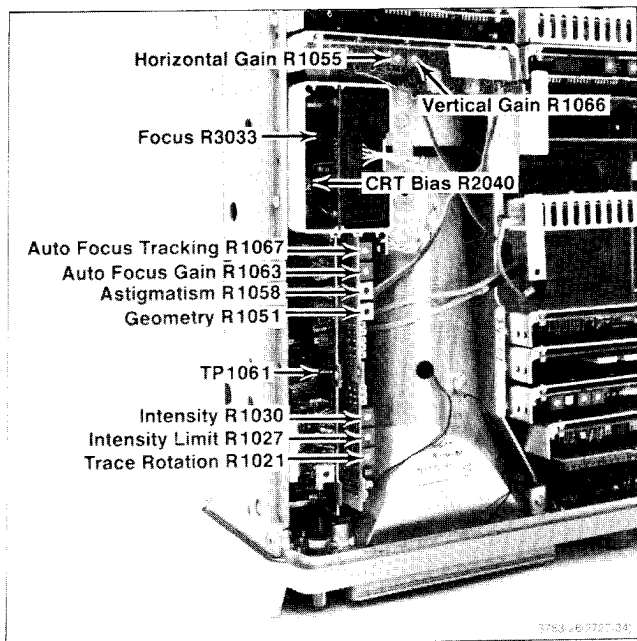

Fig. 3-23. Adjustments and test points on the deflection amplifier, High Voltage module, and Z Axis/RF Interface board.
a. Switch POWER off and preset the INTENSITY control fully counterclockwise, MANUAL SCAN to midrange, and TIME/DIV to MNL. Set the Intensity Limit R1027 on the Z-Axis board (Fig. 3-23) fully counterclockwise and Crt Bias R2040 on the High Voltage board (Fig. 3-24) fully clockwise.
3) Focus the dot by adjusting R3033 on the High Voltage board (Fig. 3-23).
6) Turn the INTENSITY control clockwise until a dot is visible. Defocus the dot with the focus adjustment, then adjust Astigmatism R1058 (Fig. 3-23) for a round dot. Re-focus the crt beam dot.
1) Switch POWER off then remove P4036 (Fig. 3-24) on the High Voltage board. Turn the INTENSITY control fully clockwise, the MANUAL SCAN fully counterclockwise and ensure that the TIME/DIV is in MNL position. Set the Intensity Limit R1027 on the Z-Axis board (Fig. 3-23) fully clockwise.
4) Adjust Intensity Limit R1027 (Fig. 3-23) for a voltage reading of 0.9 volt at TP4028.
f. Reduce the FREQ SPAN/DIV toward 0 Hz while keeping the calibrator signal centered on screen with the FREQUENCY control. Adjust the REF LEVEL so the trace is approximately mid-screen; then adjust the Trace Rotation R1021 (Fig. 3-23) so the trace is aligned with the graticule lines.
g. Change the REF LEVEL so the trace is approximately 15 to 20 dB below the top of the screen. Now, while alternately switching between 2 dB/DIV and 10 dB/DIV, adjust Geometry R1051 (Fig. 3-23) for the straightest trace at the top and bottom of the screen.
j. Adjust Δ Intensity R1030 (Fig. 3-23) so the brightness of the readout characters is the same (just discernible) as the trace.
e. Connect a digital voltmeter (DVM) to TP1061 (Fig. 3-23) and adjust MANUAL SCAN for 0.0 V at TP1061. Adjust horizontal Position control to center MANUAL SCAN dot.
f. Adjust MANUAL SCAN for a reading of +5 V at TP1061. Now adjust Horiz Gain, R1055 (Fig. 3-23), to position the crt beam to the right graticule edge (10th graticule line).
c. Adjust Vert Gain, R1066 (Fig. 3-23), for a full screen display (0 to +4 V). Remove the 5 kHz signal from pin 2 of the ACCESSORIES jack.